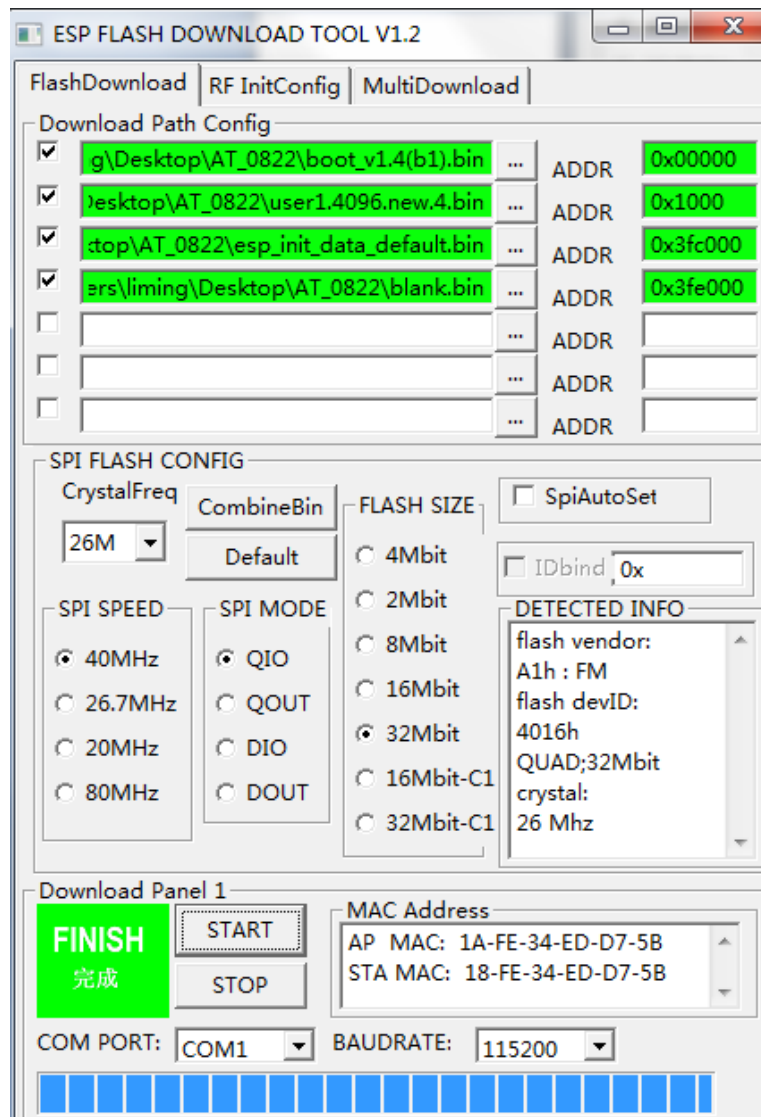

Figure 3-7 Program Download Complete
4、In program software, splats change from "downloading" to "complete" means the program download is complete, please refer to figure 3-7: